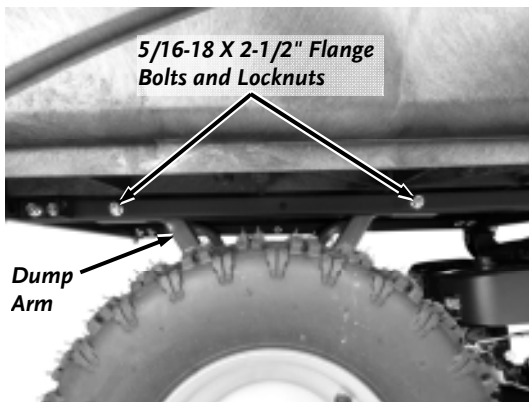

Figure 17
1. Secure the Bed Frame to the Dump Arms with four 5/16-18 X 2-1/2" Flange Bolts and Locknuts using a 1/2" Wrench and 1/2" Socket with Ratchet and Extension (**Figure 17**).